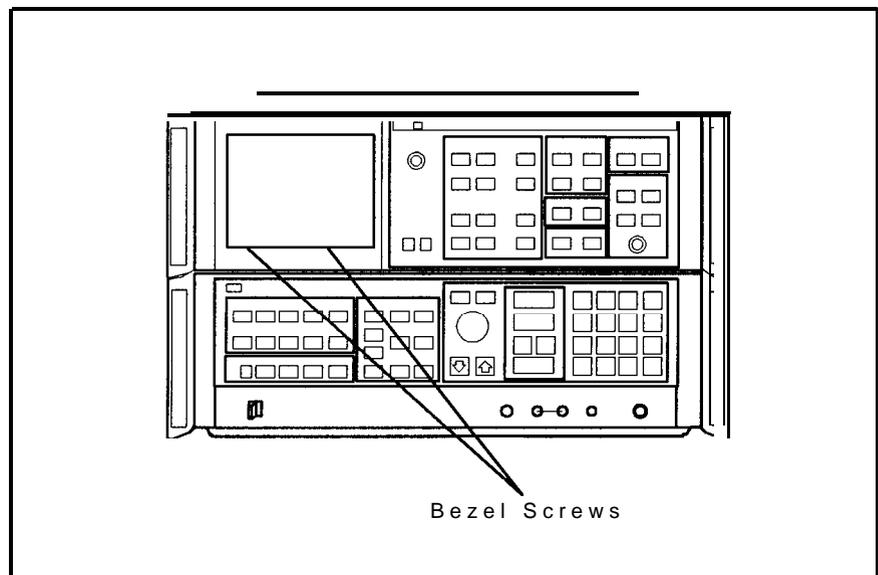

Figure 1-5. Display Bezel Screws
2. Remove the two screws securing the display bezel and CRT glass shield to the front panel. These screws are located on the bottom edge of the bezel. See Figure 1-5.